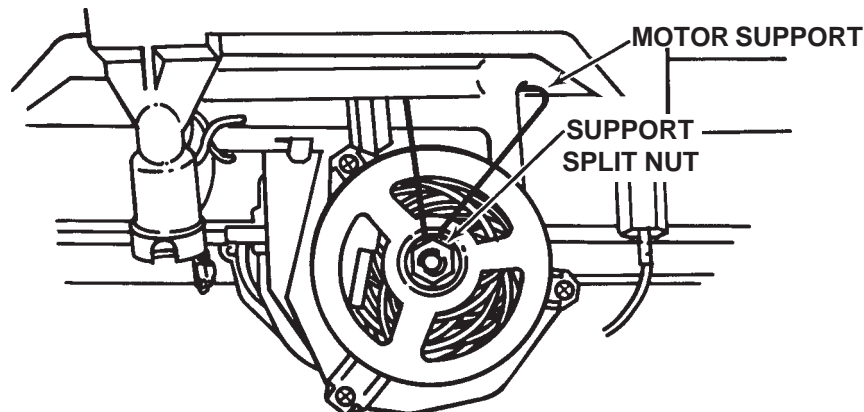

Fig. 1-6
3. Remove the motor support slip nut and remove the motor support. (Fig. 1-6)